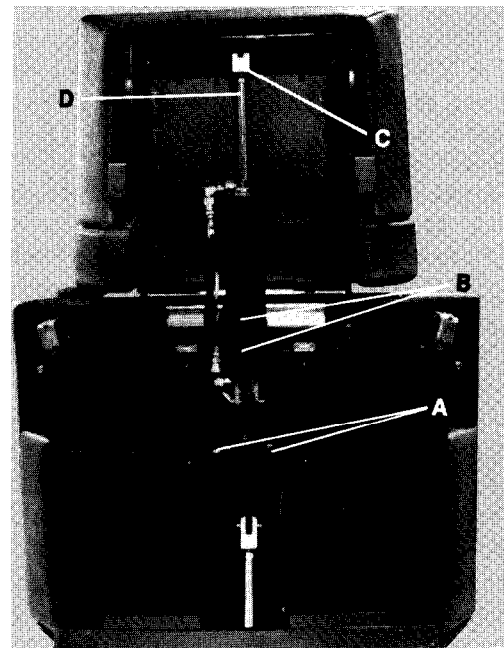

Fig. 28
- 1) Position the table as shown in Fig. 28 by running tilt and foot up.
- 3) Loosen hose clamps, Item A, Fig. 28.
- 4) Remove (2) cable ties from cylinder, Item B, Fig. 28.
- 5) Remove the (2) hose fittings from the defective cylinder using 7/16" and 9/16" wrenches.
- 13) Temporarily plug the power cord into an electrical outlet and position the table as shown in Fig. 26. The table top should be level. If the top is not level, the clevis, Item C, Fig. 28, must be adjusted in or out accordingly. To adjust the clevis, turn the cylinder rod using a 3/8" open end wrench on the wrenching flats, Item D, Fig. 28. The rod will turn easiest when it is extended about half of its total extension.